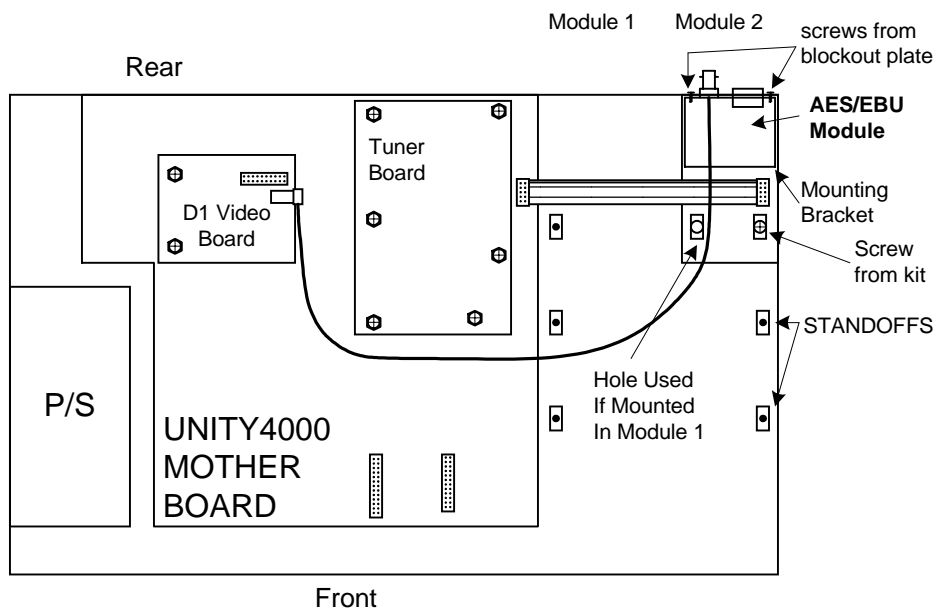

Figure 1. Typical AES/EBU and D1 Installation
See Figure 1 (Page7) of this guide for a view of the module and its installation.
3. Install the one (1) 6-3 Philips screw through the AES/EBU Printed Wiring Board (PWB) into the standoff hole in the bottom of the chassis. Leave it loose at this time. Only one screw will be used in this step, and which hole is used will depend on the module slot the module is installed in. This self-tapping screw “cuts” its own threads in the standoff hole, and will require moderate effort to turn it.
6. Connect the supplied 10-pin cable from J1 on the AES/EBU PWB to J24 on the receiver motherboard. Ensure that Pin 1 of each cable connector is connected to Pin 1 on each board connector. See Figure 1 (Page 7). The side of the cable with the red line connects to Pin 1.